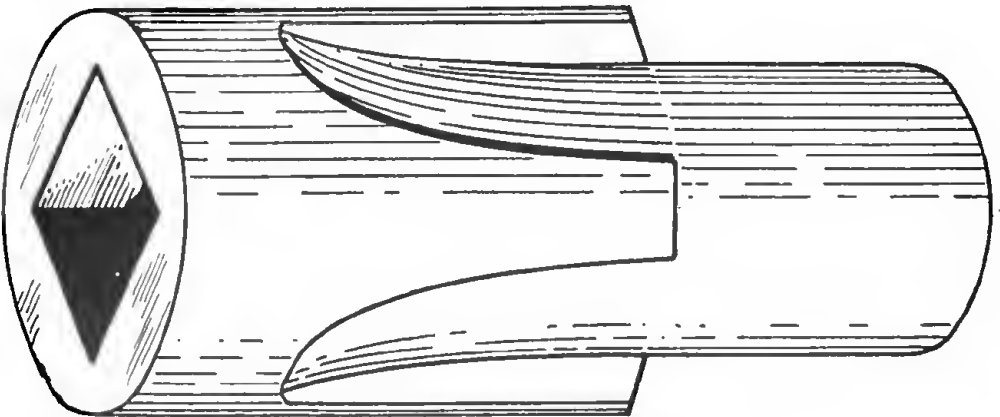

Figure 38. Oil-sump stud wrench.
q. OIL-SUMP STUD WRENCH. One end of this wrench is machined to fit the inside of the oil-ump plug. The other end contains a square hole for an extension bar. It is used to remove the oil-ump plug. In use it is similar to an ordinary socket except that it fits the inside of the plug instead of the outside. (See fig. 38.)